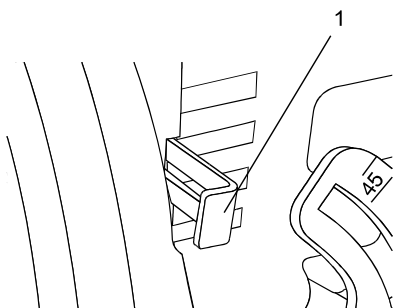
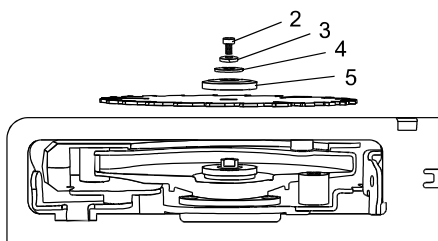

Fig. 1
Fig. 2
1. Press inward on the shaft locking button (1) (Fig. 1).
2. Insert 5 mm hex key into the blade screw (2) (Fig. 2). While pressing in the shaft locking button (Fig. 1), rotate the hex key counter clockwise until the shaft locking button engages the blade shaft. Continue turning the hex key counter clockwise to remove the blade screw, lock washer (3), flat washer (4) and large outer flange washer (5).